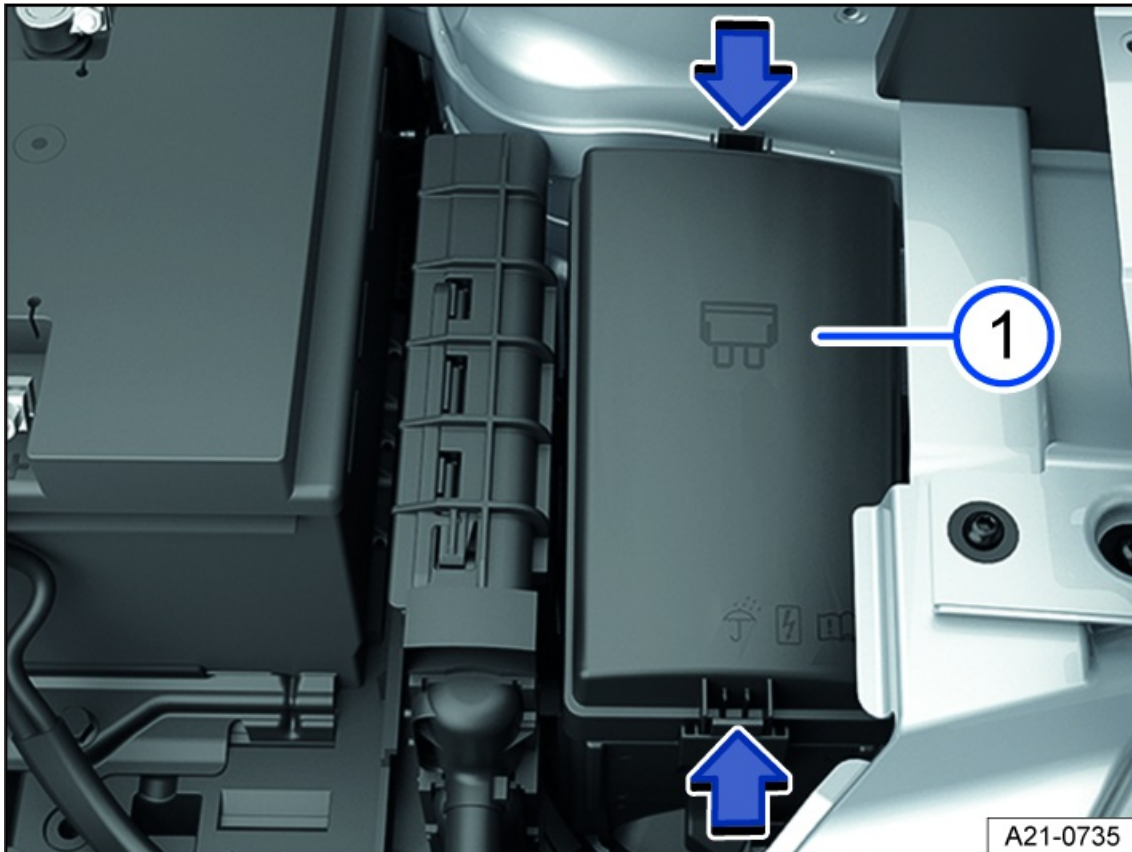

Fig. 152 In the hood space: fuse box (general example).
2. Press the catches in the direction of the arrow to unlock the fuse box cover *fig. 152* .